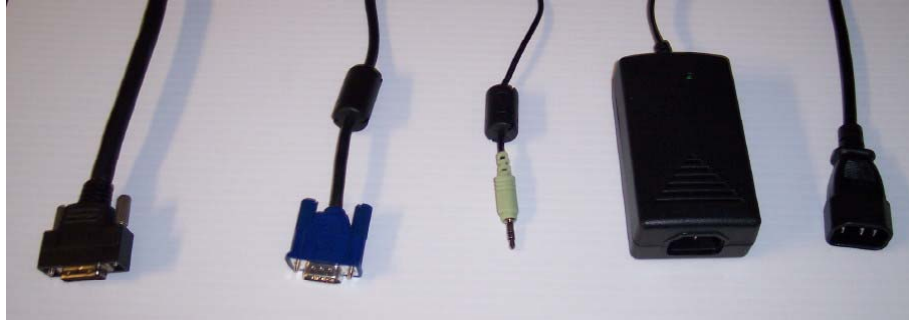

Figure 5-5: Cables Emerging from the Bottom of the LCD Arm
3. The following cables coming out of the bottom of the LCD Arm (shown left-to-right in Figure 5-5) are to be connected as described below. Extension cables are supplied as indicated in the text above. The first cable is the camera high-speed data cable and goes to the Host PC, the next two cables go to outputs on the Display PC, and the final two go to a power source.